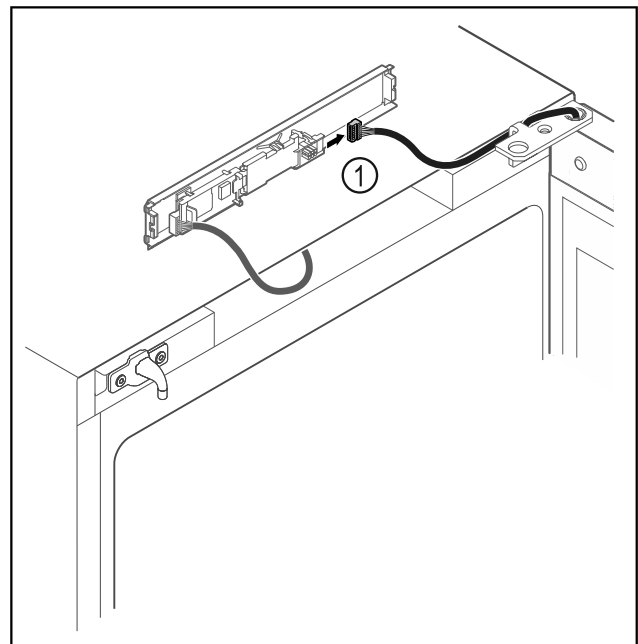

Fig. 38
- Disconnect the plug Fig. 38 (1) from the circuit board.